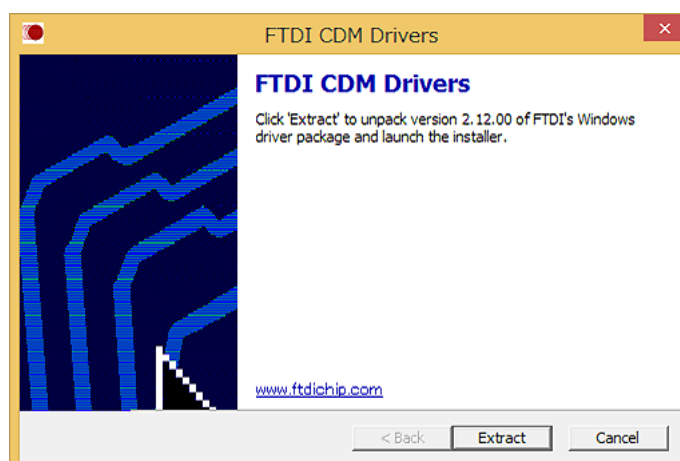

Fig. 8: FTDI CDM Drivers
- (1) Connect the KIT I/F cable to the USB port of the computer.
- (2) When "CDM 21228_Setup.exe" is executed, setup program starts and Fig. 8. FTDI CDM Drivers screen is shown.